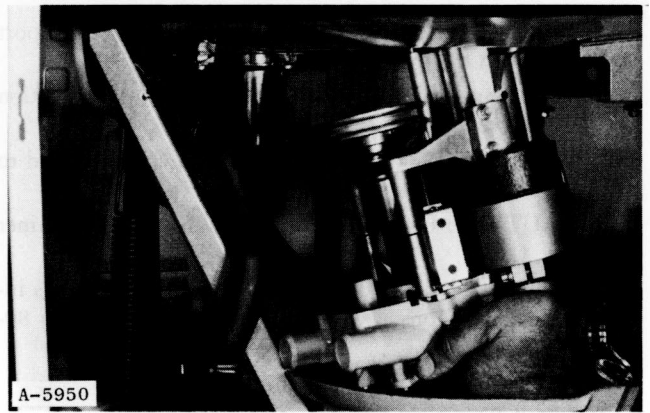

Figure 128
9. Remove the board supporting the mechanism and tilt the mechanism to the right, Fig. 128. This allows the pump hose connection to clear the tub support.